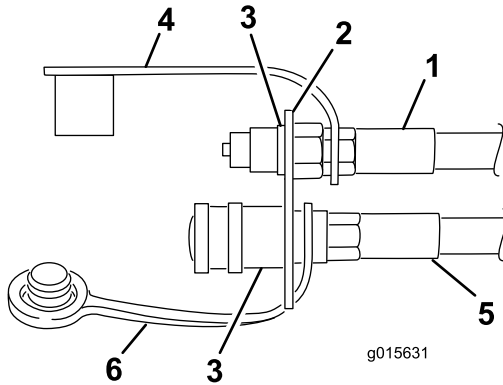

Figure 17
3. Secure the hose assembly to the female coupler (Figure 17).
4. Slide the loop end of the dust cap (Figure 17) over the end of the hydraulic hose coming from the rear valve fitting.
6. Insert the end of the hose through the top hole in the coupler bracket (Figure 17).